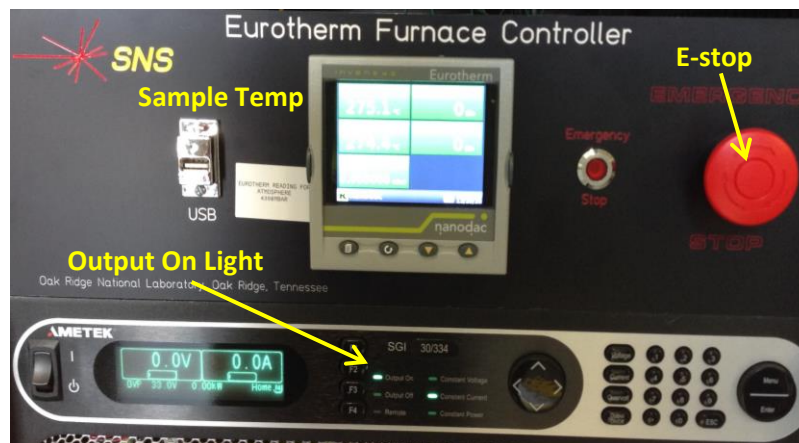

Figure 2. Furnace controller
- e. Turn off power to the heating elements by pressing the e-stop on the controller (Figure 2).